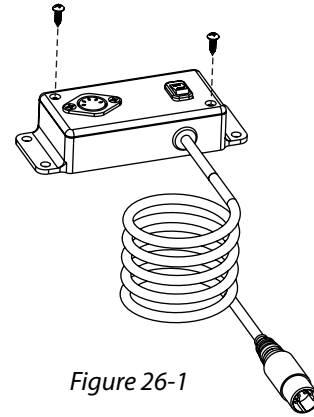

Figure 26-1
**6. Carefully fold the enclosure lid back over enclosure to avoid trapping any wires.** Use supplied screws (x2) to fasten the lid to the bottom enclosure. *[Figure 26-1]*